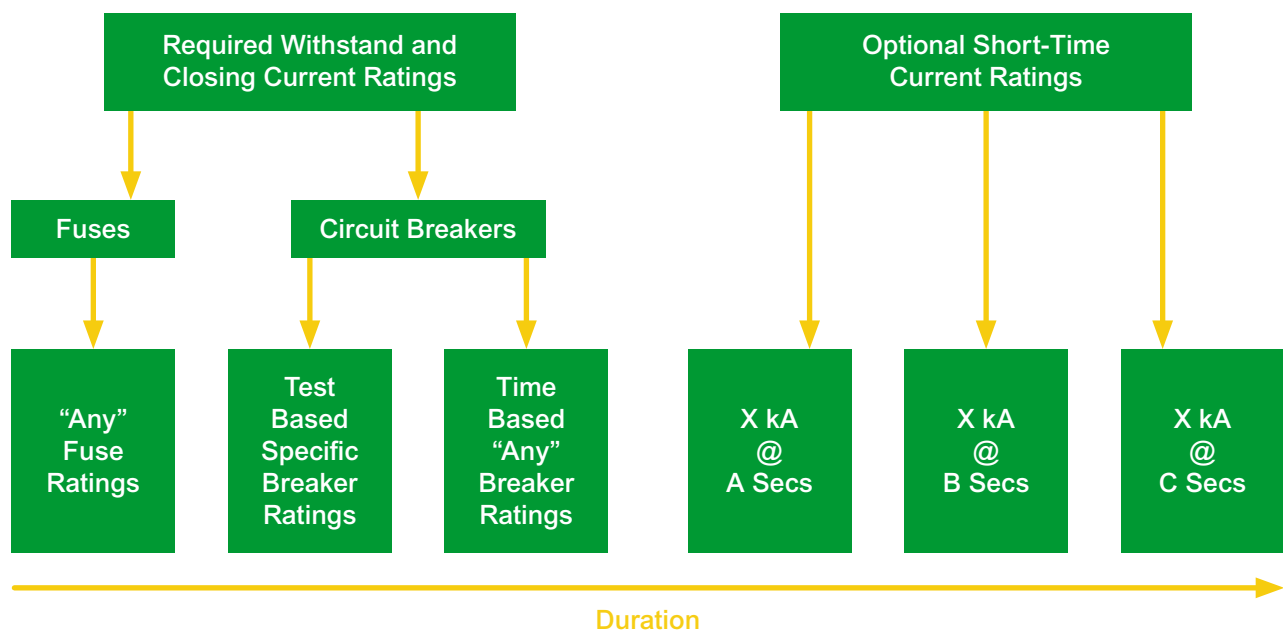

Figure 4: UL1008 Rating Scheme
Based on the results of tests summarized herein, UL1008 enables manufacturer to offer Withstand and Closing Ratings according to the scheme in Figure 4. These include ratings for ATS served by: (1) fuses, (2) non-specific breakers, and (3) specific breakers that have been tested with the switch according to UL1008 procedures. In addition, manufacturers can test ATS to demonstrate short time ratings for one or more durations. As a practical example, the corresponding ratings for ASCO transfer switches, effective May 2019, are shown in Table 2.